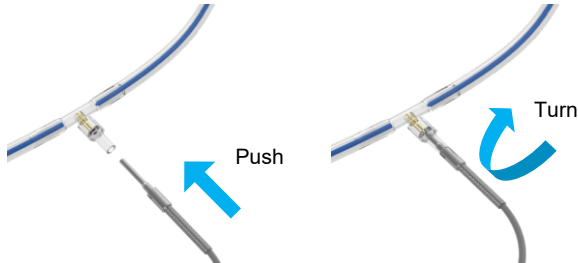

Figure 16 Connection of the temperature sensor to the perfusion set
- Connect the blue PV T2 sensor to the PV perfusion line, Figure 16; it is located at the outlet of the liver reservoir.